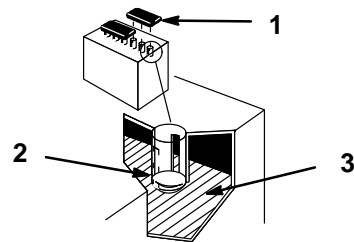

Figure 30
1. Open covers to see into the cells. The electrolyte must be up to the lower part of the tube (Fig. 30).
IMPORTANT: Do not allow the electrolyte to get below the plates. (Fig. 30).
2. Lift off the filler caps (Fig. 30).
3. Slowly pour distilled water into each battery cell until the level is up to the lower part of the tube (Fig. 30).